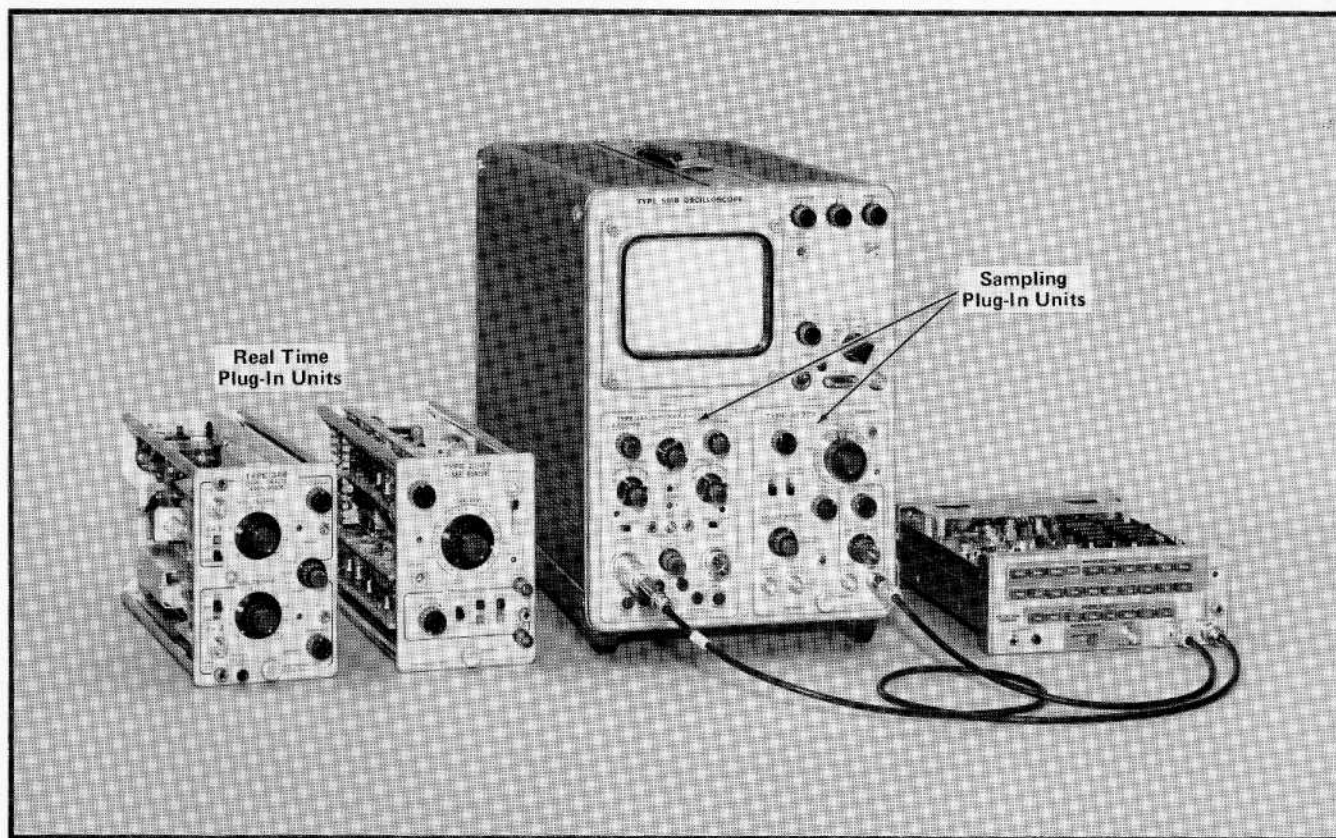

Fig. 5-5. Test equipment setup to check/adjust multiplier output. (50 ns, 10 ns, 5 ns, 2 ns.)
①
- a. Test equipment setup is shown in Fig. 5-5.